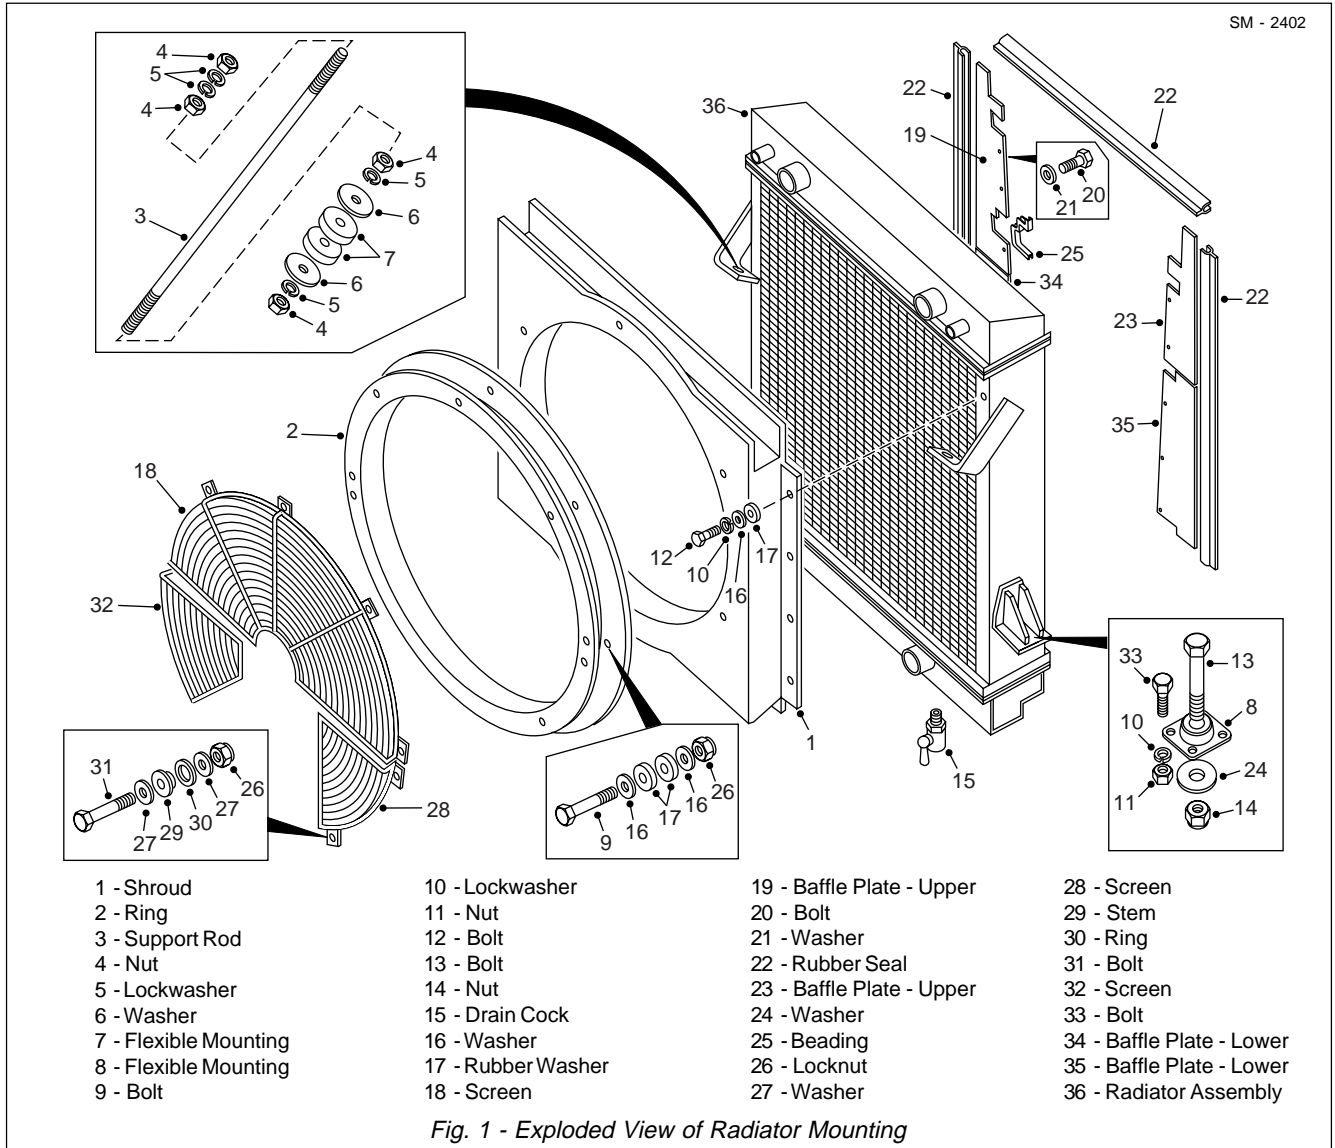

Fig. 1 - Exploded View of Radiator Mounting
Numbers in parentheses refer to Fig. 1, unless otherwise specified.
1. Remove bolts (12, Fig. 1), lockwashers (10, Fig. 1), washers (16, Fig. 1) and rubber washers (17, Fig. 1) securing shroud (1, Fig. 1) and ring (2, Fig. 1) assembly to radiator assembly (35, Fig. 1).
2. If required, remove bolts (20, Fig. 1) and washers (21, Fig. 1) securing baffle plates (19, 23, 34 & 35, Fig. 1) to radiator assembly (36, Fig. 1). Remove baffle plates (19, 23, 34 & 35, Fig. 1) and rubber seals (22, Fig. 1) from the radiator assembly (36, Fig. 1).
3. If required, remove screws (15), washers (16) and lockwashers (17) securing cover plates to bottom tank (2). Remove mounting hardware securing check valves (23) to bottom tank (2).
**Note:** Joule tube (10) type radiators are designed in such a way that individual tubes can be replaced without the need to replace the entire radiator core.
**Note:** It may be necessary to remove several undamaged joule tubes (10) in order to gain access to the damaged tube.
**Note:** The top and bottom ends of joule tube (10) are distinguished by the top end of the tube having a long length of tube bare of grilling and the bottom end being fitted with a locating washer.
4. Removal of joule tube (10) and rubber ferrules (9) is as follows:
- a. Push joule tube (10) upwards into the top tank (1) until the bottom of the tube is clear of the bottom tank (2).
- b. Carefully pull joule tube (10) clear of bottom tank (2) and pull out from top tank (1).
- c. Remove and discard rubber ferrules (9) from top tank (1) and bottom tank (2).
5. Replacement of joule tube (10) and rubber ferrules (9) is as follows:
- a. Lightly coat outside diameter of new rubber ferrules (9) and tube holes in top tank (1) and bottom tank (2) with petroleum jelly.
**Note:** Check valve (23) is a non-servicable item, replace if damaged.
7. If removed, install rubber seals (22, Fig. 1) and baffle plates (19, 23, 34 & 35, Fig. 1) to front of the radiator assembly (36, Fig. 1). Secure baffle plates (19, 23, 34 & 35, Fig. 1) to radiator assembly (36, Fig. 1) with bolts (20, Fig. 1) and washers (21, Fig. 1).
8. Secure shroud (1, Fig. 1) and ring (2, Fig. 1) assembly to radiator assembly (36, Fig. 1) with rubber washers (17, Fig. 1), washers (16, Fig. 1), lockwashers (10, Fig. 1) and bolts (12, Fig. 1).